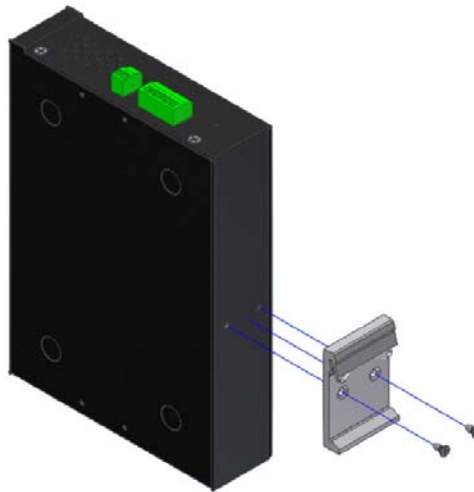

Figure 2-2
1. Install the DIN-Rail mounting plate to the VC-412. (Figure 2-2)